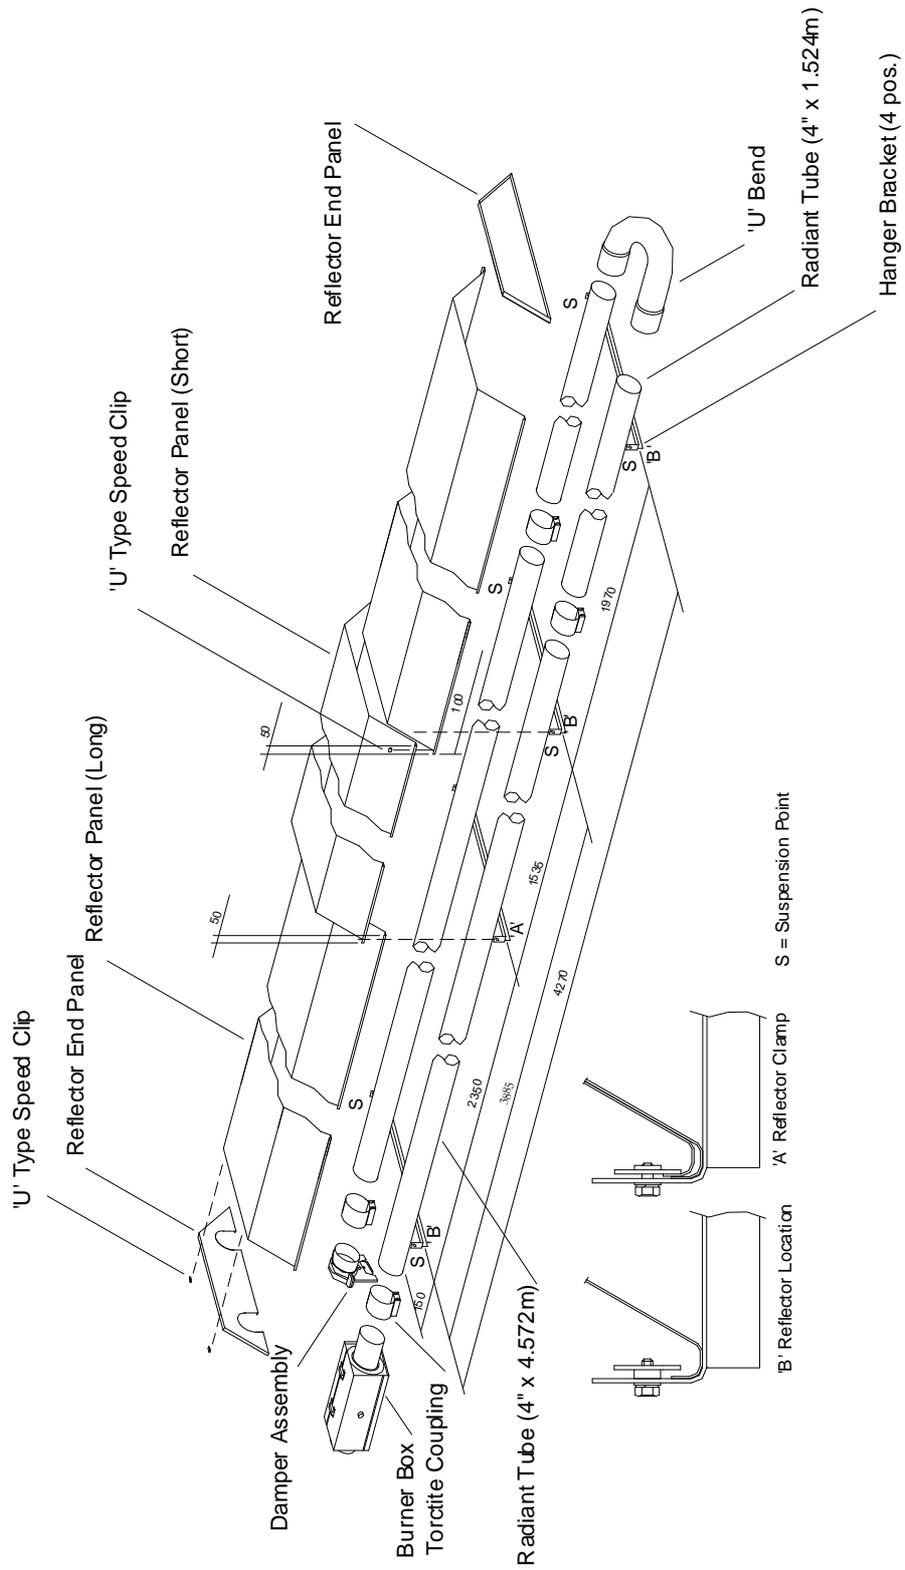

Fig. 20
- 4.4.3 Assemble the four Hanger Brackets to the Radiant Tubes using two U bolts per bracket (from fastenings pack) and position along the Radiant Tubes as shown in Fig 20. Tighten the nuts sufficiently to retain the hanger brackets. Do not over tighten.
- 4.4.6 Place the two long Reflector Panels onto the Hanger Brackets and position as shown in Fig 20. Place the short Reflector Panel over the two long Reflector Panels to provide a 50mm overlap at each end. Clamp the long and short Reflector Panels (Control Box end) to the Hanger Bracket at which they overlap, using two retainers and M6 setscrews and washers (fastenings pack). Secure the other end of the short Reflector Panel to the second long Reflector Panel using two U type speed clips (from fastenings pack) as shown in Fig 20. Screw the remaining (6) retainers to each of the other Hanging Brackets to provide location for the Reflector Panels as shown in Fig 20.
- 4.4.7 Position the Reflector End Panel (notched) over the Radiant Tubes and into the end of the Reflector Panel with the End Panel flange flush with the end of the Reflector. Secure the Reflector End Panel to the Reflector Panel by use of 6-U type speed clips provided (fastenings pack); 2 clips per facet of Reflector Panel, as shown in Fig. 20.
- 4.4.8 The appliance should now be raised and suspended from previously fixed chains or drop rods as detailed in Section 3.1, at suspension points indicated in Fig. 20. Rope or webbing slings should be used when lifting from above. If using a forklift to position the appliance, ensure that the appliance is balanced on the forks prior to lifting.